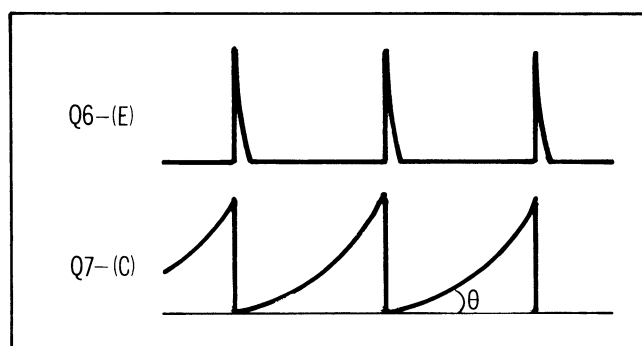

Figure 2-195
That is, the slope of X5 mode is steeper than the slope of X2 or normal speed mode as shown in Figure 2-195. The positive pulse from the Reel FG IC3-(1) turns on Q7, discharging C11 and limiting the maximum level reached.